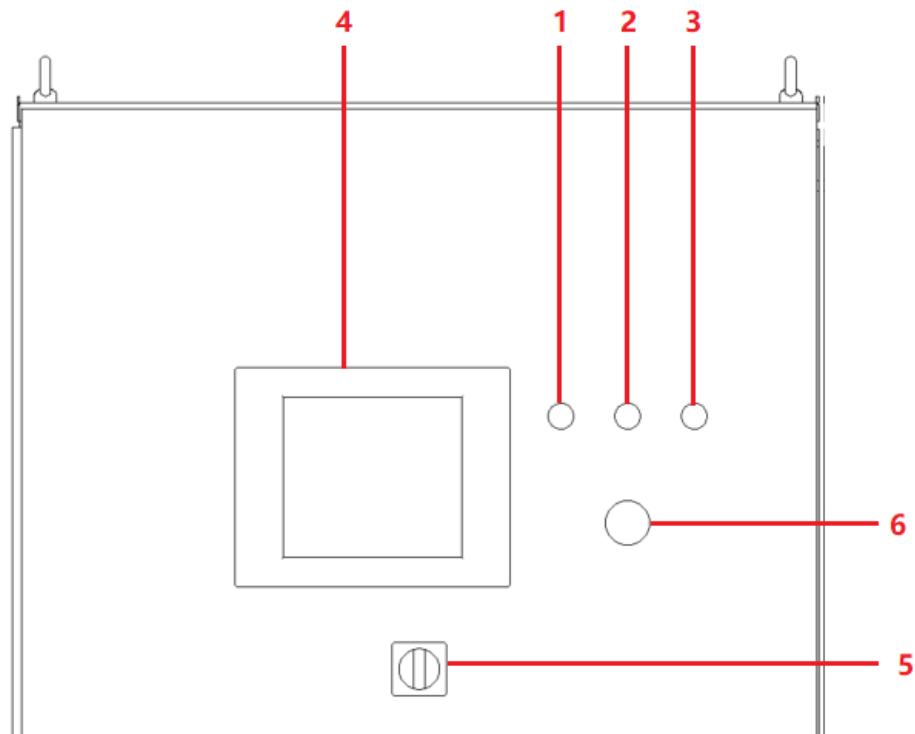

Figure 3-6
Step 2: Turn the power knob counterclockwise (Figure 3-6: 5).